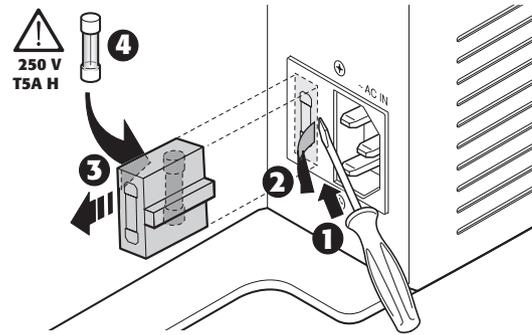

Fig.2
Before changing the fuse disconnect the unit from the mains power supply. The fuse compartment is next to the mains power connector (Fig. 2). Remove fuse carrier (2) with the aid of a flat blade screwdriver, then change fuse (3). Insert a new spare fuse (4). Use only T5A H fuses.